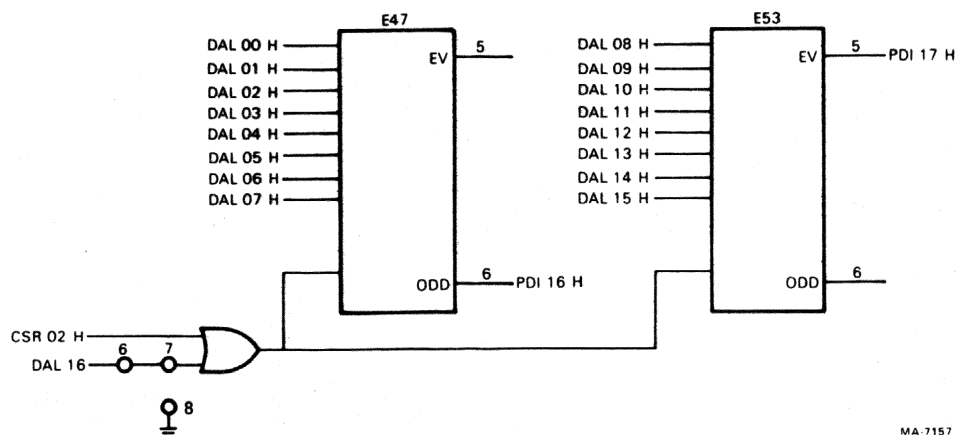

Figure 3-13 Parity Generators
3.3.7.1 Parity Generation - The data received from the bus master on the LSI-11 bus (D_AL00-15) goes to the parity generators (Figure 3-13).